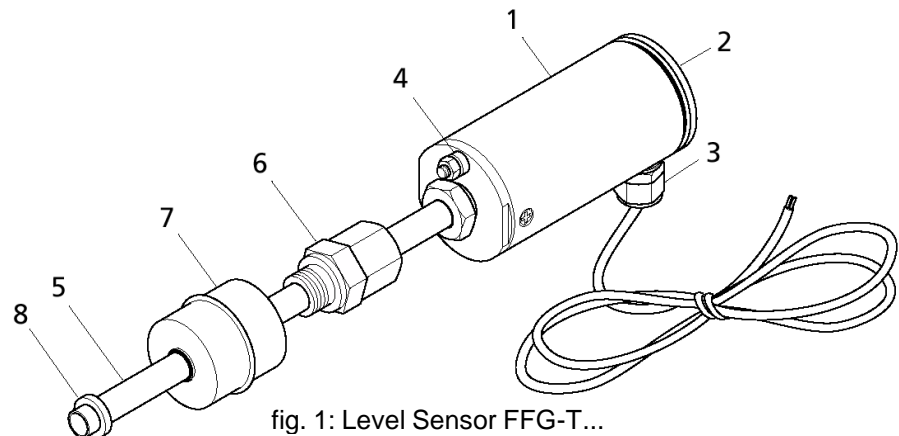

fig. 1: Level Sensor FFG-T...
The design of the FFG-T... system is shown in figure 1 with a compression fitting. Inside the probe head (1) of the FFG-T... system are the connection terminals and adjustment protected by a lid (2). The electrical connection is via an M16x1.5 cable gland (3) at the top of the probe head while the earth connection (4) is at the bottom of the probe head. To adjust the sensor inside the container, the probe is fitted with a compression fitting (6) (G1/2, W27) or a flange (not shown). The float (7) serves for continuously gauging the product or interface level, and is held on the guide tube (5) by a float stop collar (8).